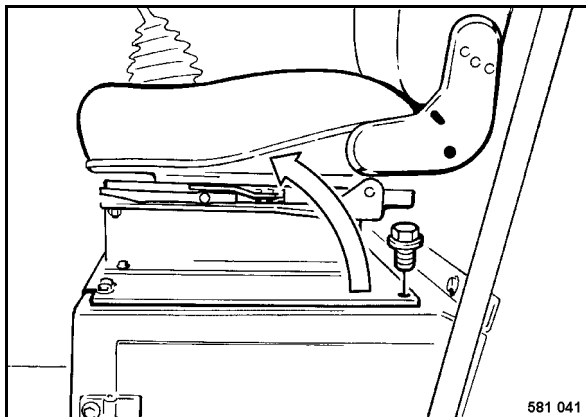

Fig. 69
- Unscrew both fastening screws (Fig. 69) from the seat console and fold the seat forward.